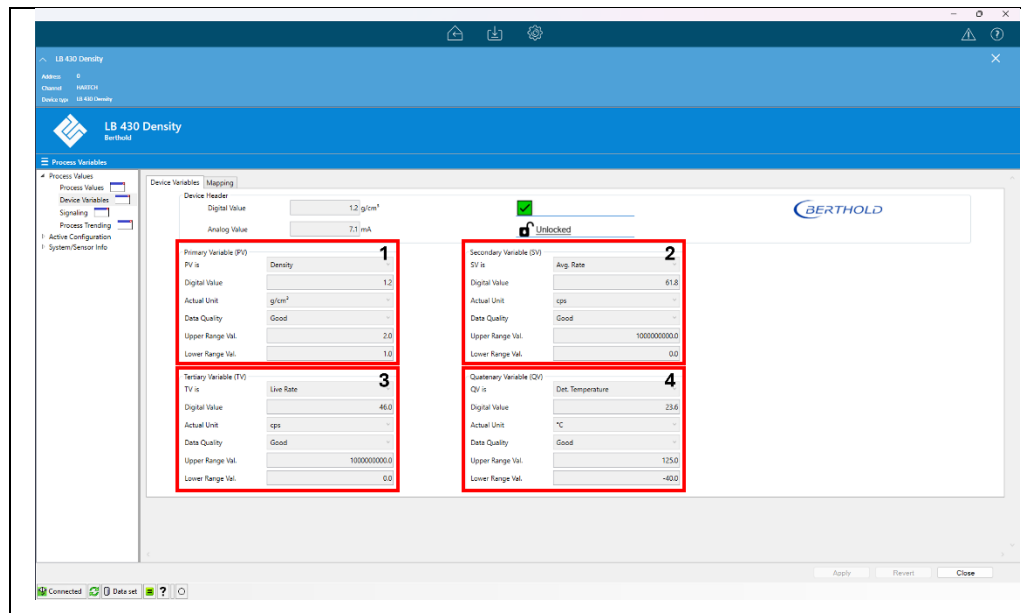

Abb. 85 Reiter: *Process Values | Device Variables | Device Variables*.
- PV (Primary Variable, Abb. 85, Pos. 1)
- SV (Secondary Variable, Abb. 85, Pos. 2)
- TV (Tertiary Variable, Abb. 85, Pos. 3)
- QV (Quaternary Variable, Abb. 85, Pos. 4)